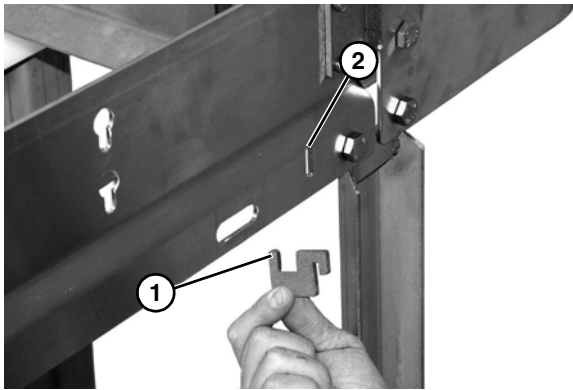

Figure 26
1. Install belt return mounting bracket (**Figure 26, item 1**) into slotted frame hole (**Figure 26, item 2**).